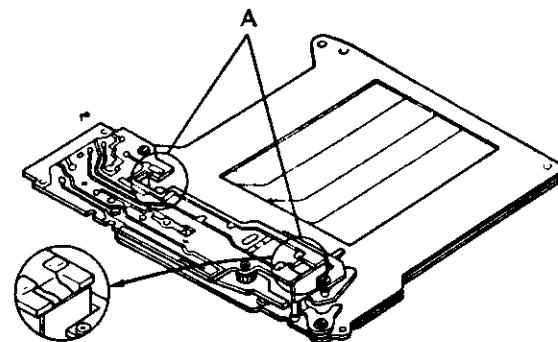

Fig. 49
- 2) Shutter (see Fig. 49)
A section in Fig. 49 should not be touched with fingers and hung with anything, because Mg coil is exposed.